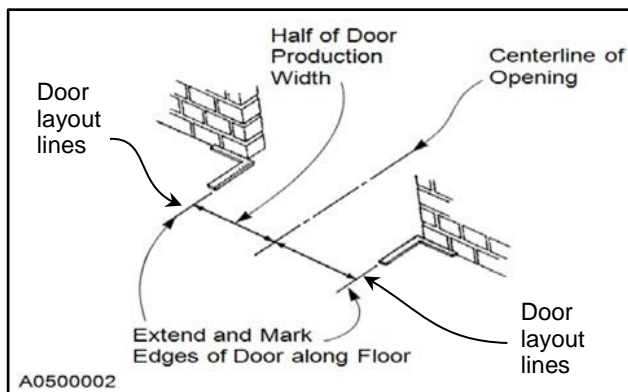

Figure 14
2. Using the centerline as a reference point, mark the door layout lines by laying out and marking half of the door's production width (listed as "door width" in the "SAMPLE OBJECT LIST") along the floor. (See Figure 14)